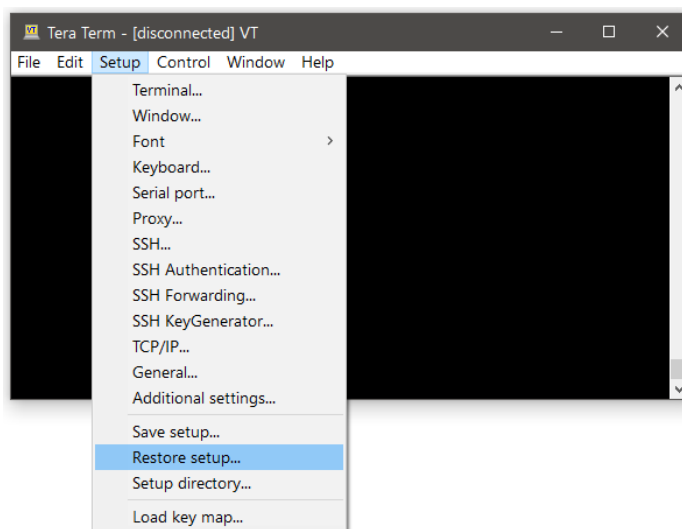

Figure 6-3 Settings loading for Tera Term
- Load settings as shown on Figure 6-3 from the .INI setup file;